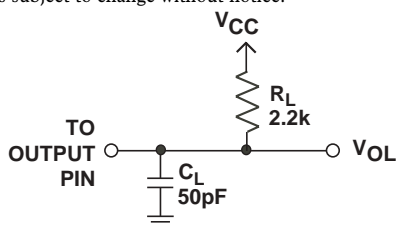

Figure 1a Load Circuit for  $\overline{\text{BUSY}}$  Timing Diagram
- 5This is measured with the load circuit of Figure 1a.
5This is measured with the load circuit of Figure 1a.